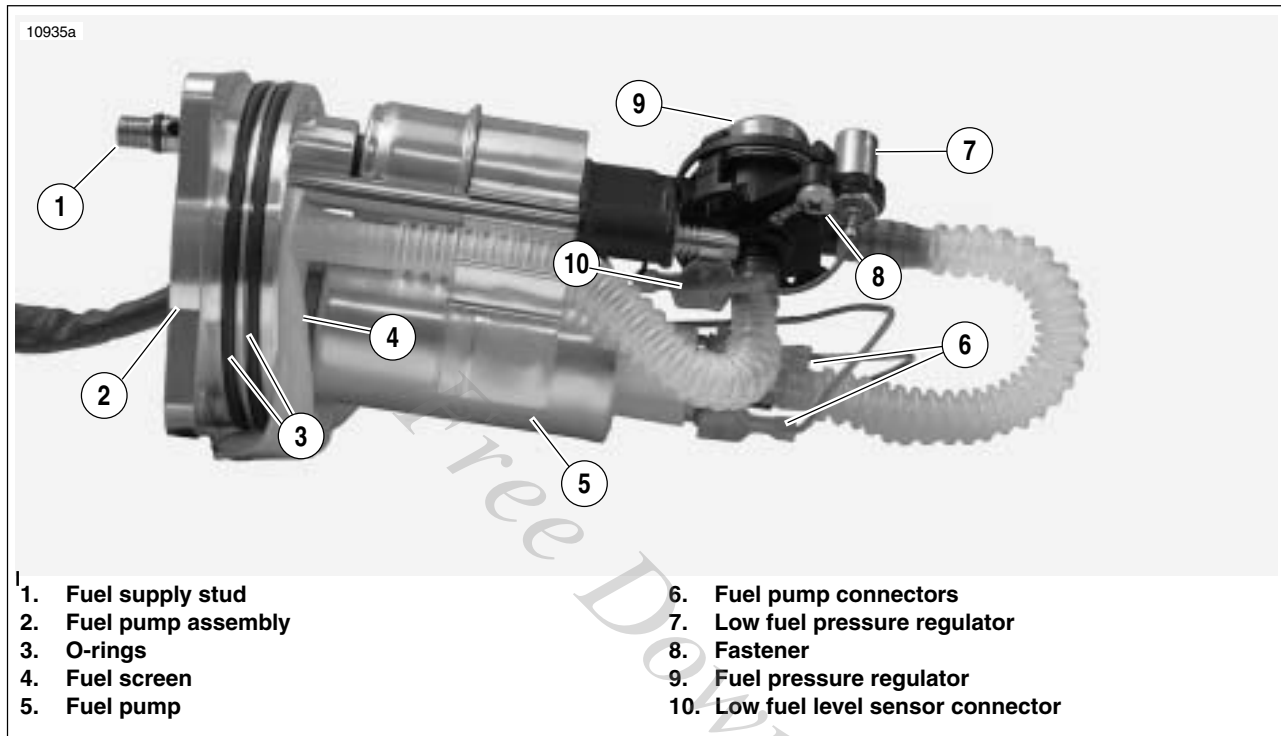
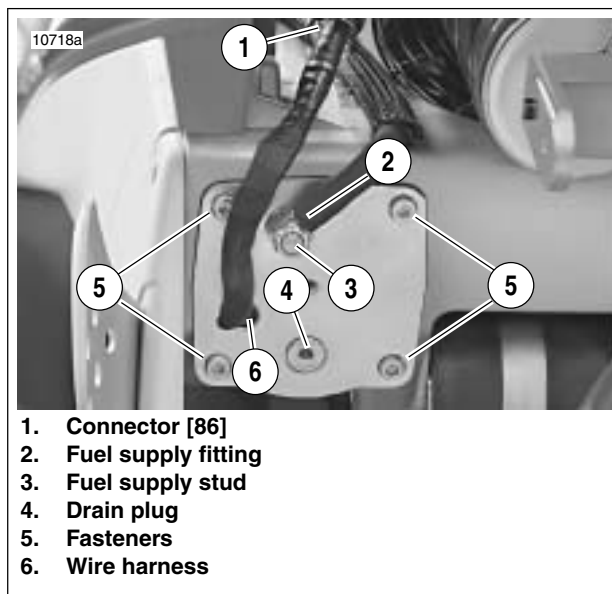

Figure 4-99. Fuel Pump Assembly
Figure 4-104. Fuel Pump Location
1. See Figure 4-99. Replace o-rings (3). Lubricate **new** o-rings with **clean** engine oil.
2. Install **new** o-rings on fuel supply stud (2). Larger o-ring is located in groove closer to fuel pump.
3. See Figure 4-104. Insert fuel pump into frame until resistance is felt.
4. Insert four screws (5) through fuel pump and into frame.